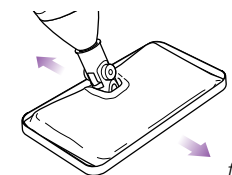

fig. 13
- Move the steam mop back and forth across a section of the carpet. (fig. 13)